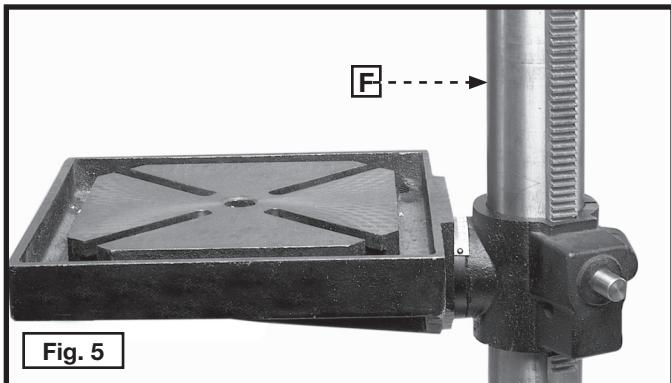
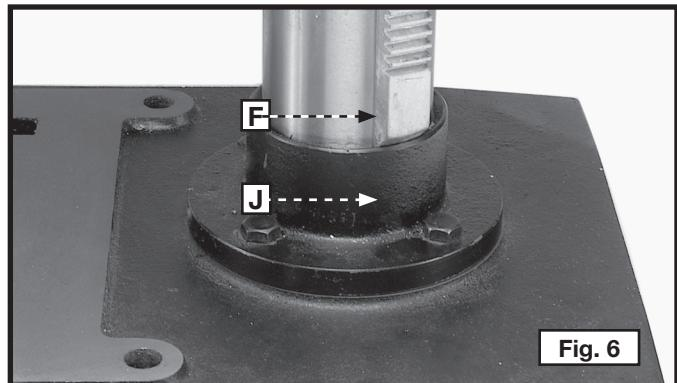

Fig. 5
Fig. 6
- Slide the raising rack (F) Fig. 5, the table, and table bracket on the drill press column. Place the bottom of the raising rack (F) Fig. 6 inside the flange (J) on drill press base.